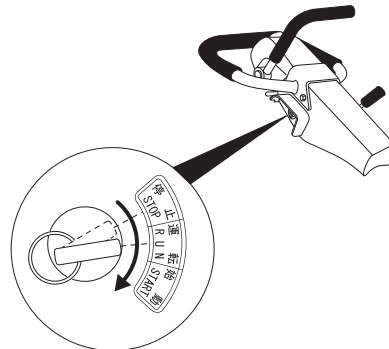

Figure 60. Ignition Switch (RUN)
- Turn the key **clockwise** to the **RUN** position (Figure 60). The buzzer will begin to sound.